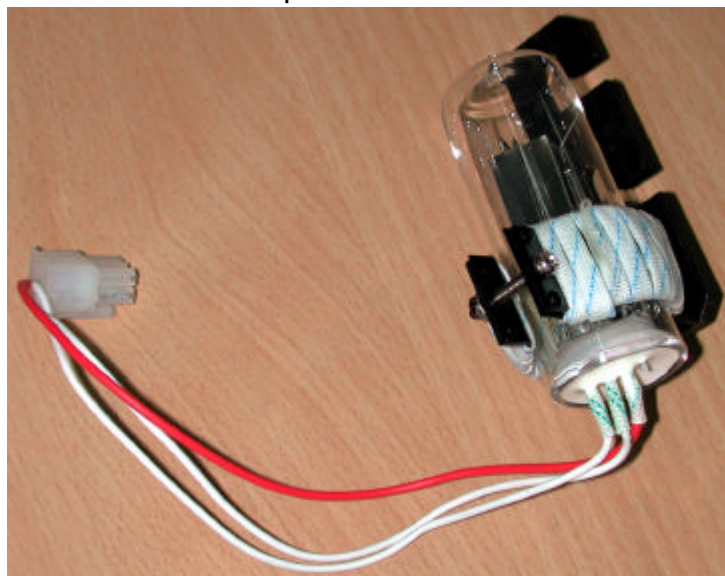

Fig A6
7. Replace the pre-aligned lamp with a lamp (Fig A6) provided by UNICO or an authorized UNICO Service Provider . This comes pre-assembled with lamp socket.